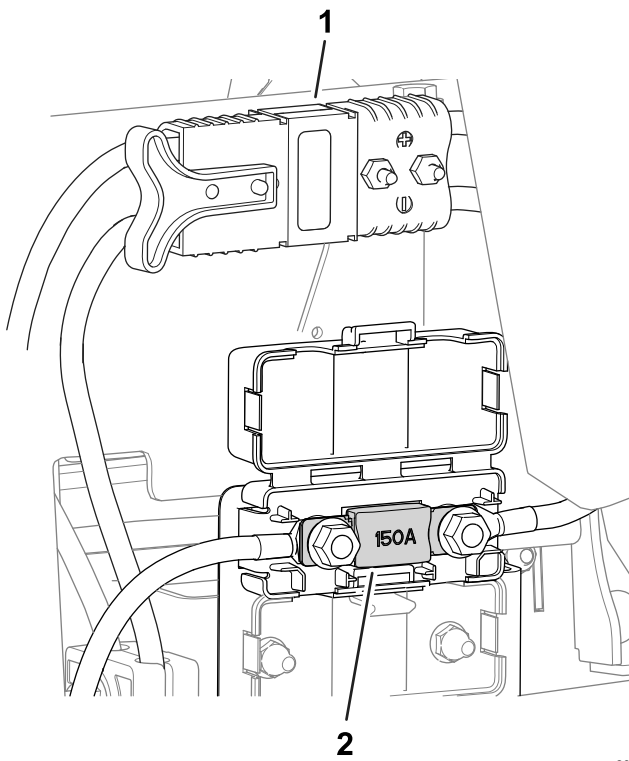

Figure 60
- The fuse for the electrical system is located under the main-power connectors (Figure 60).